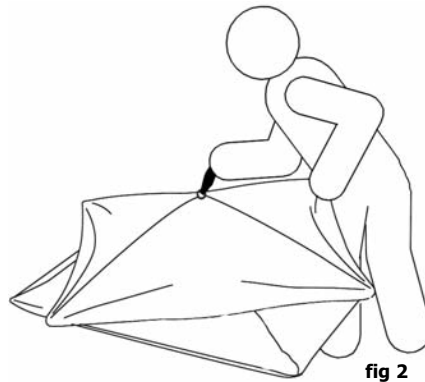
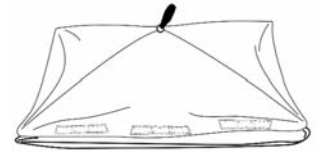

fig 2
fig 2a
Step 2: Firmly pull center hub of roof pull so it pops up (fig 2). Twist top of blind so corners of top and bottom line up (fig 2a). This will make for easy set up when opening wall hubs.